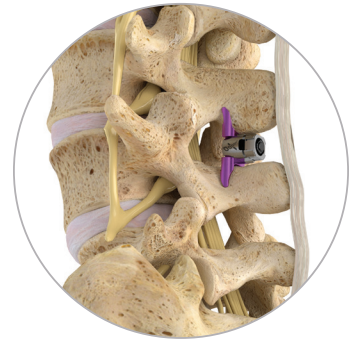

Fig. 9. Inserter Removed
1. Once final positioning of the Implant has been confirmed via AP and lateral fluoroscopy, the Inserter may be removed (Fig. 9).